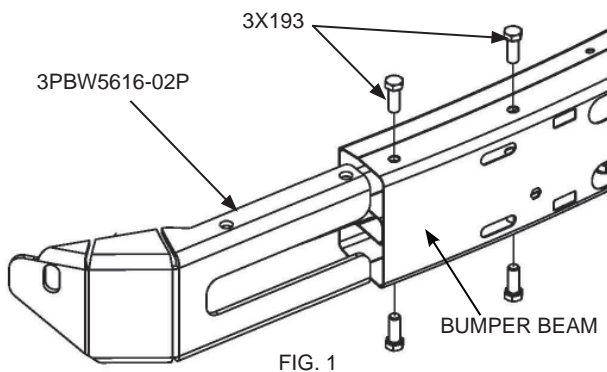

FIG. 1
- B. Remove vehicle's front fascia to expose bumper beam. (See Fig. 1)
- A. Insert the 3PBW5616-02P wrap support bracket into the ends of the bumper beam. (Fig. 1 & 2)
- B. Attach the wrap support bracket using the provided 3X193 bolts through the OEM hole locations as shown in (Fig. 1 & 2).